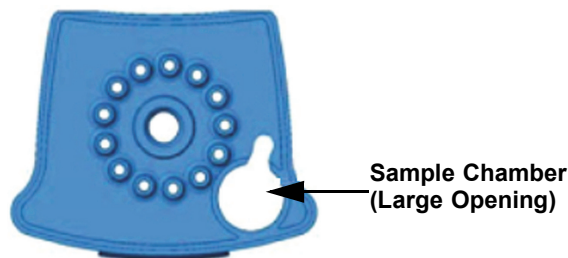

Figure 22. Xpert Xpress SARS-CoV-2/Flu/RSV Cartridge (Top View)
17. To transfer the sample to the cartridge, squeeze the top bulb of the pipette **completely** again until it is fully flat to empty the contents of the pipette (300 μ L) into the large opening (Sample Chamber) of the cartridge shown in Figure 22. Some liquid may remain in the overflow reservoir. Dispose of the used pipette.